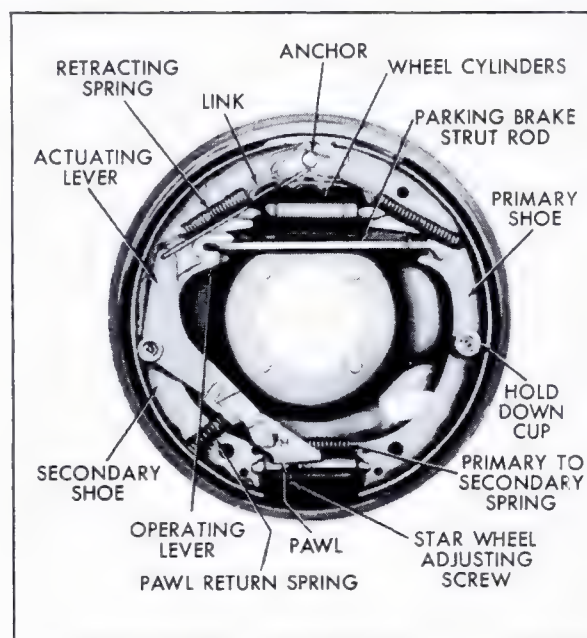

Fig. 5-6 Rear Wheel Drum Brake Mechanism
4. Relining Rear Drum Brakes (All except 693) (Fig. 5-6)